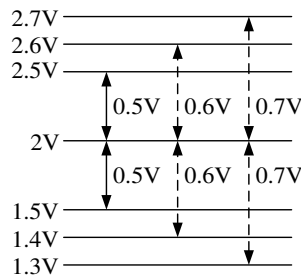
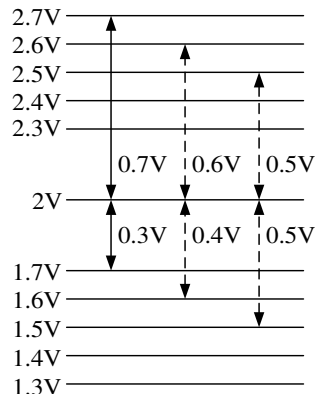

Figure 15. Adjust W8 or W6
Figure 16. Adjust W7 or W5
- 5. Set output voltage limit. Adjust the potentiometer W6 to set the voltage limit. TP VLIM is the test point for W6. After the VLM is tuned properly, adjust W5 to achieve different voltage limit for heating and cooling. As is shown in Figure 15 and Figure 16.
Set output current limit. Adjust the potentiometer W8 to set the current limit. TP ILIM is the test point for W8. After the current limit is tuned properly, adjust W7 to achieve different ILM for heating and cooling. As is shown in Figure 15 and Figure 16.